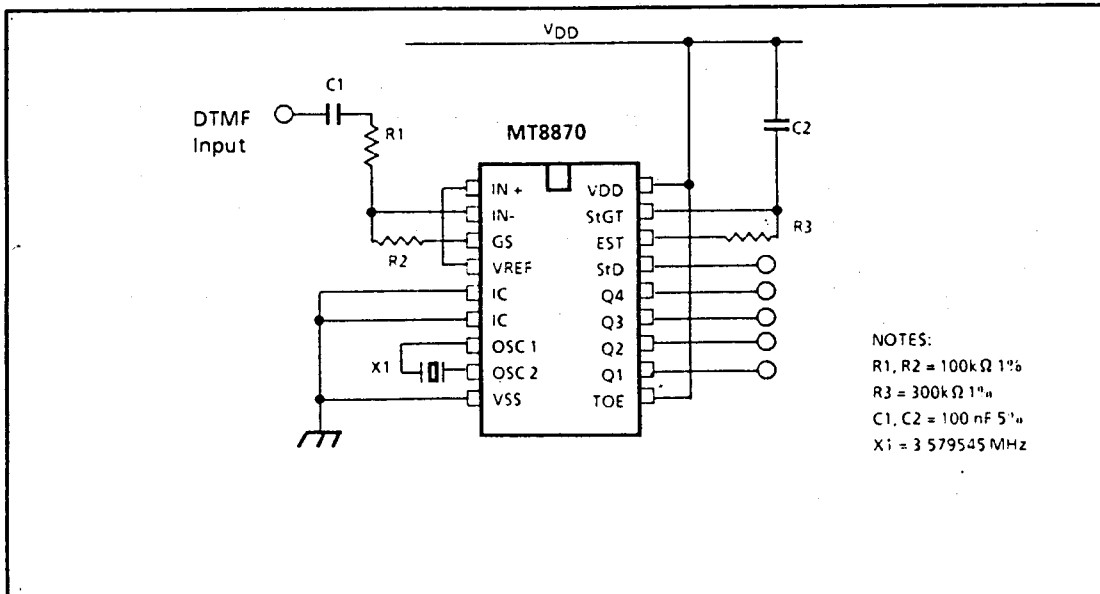
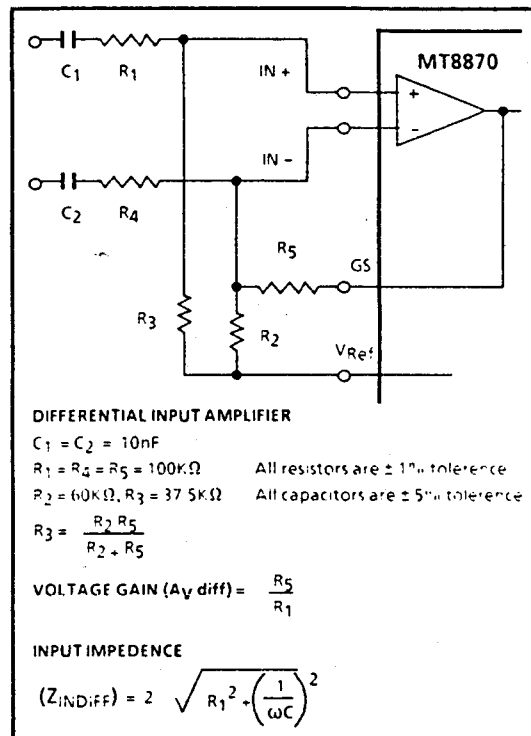
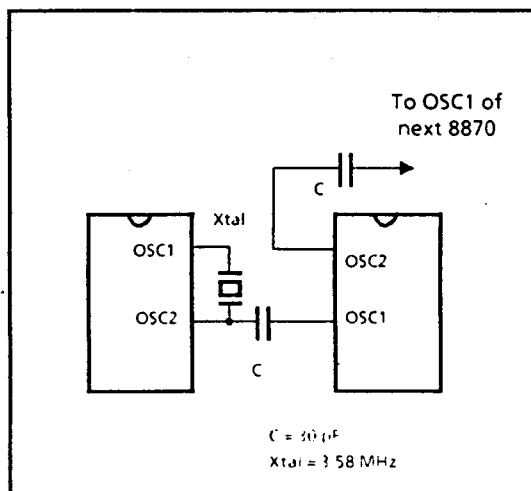

Figure 2. Single Ended Input Configuration
Figure 8. Differential Input Configuration
Figure 9. Oscillator Connection
[†] V_{DD} = 5 V, V_{SS} = 0, T_A = 25° C and f_C = 3.579545 MHz using test circuit shown in Figure 2
[†]V_{DD} = 5V, V_{SS} = 0V, T_A = 25°C and f_C = 3.579545 MHz, using test circuit in Figure 2
The input arrangement of the MT8870 provides a differential-input operational amplifier as well as a bias source (V_{REF}) which is used to bias the inputs at mid-rail. Provision is made for connection of a feedback resistor to the op-amp output (GS) for adjustment of gain. In a single-ended configuration, the input pins are connected as shown in Fig. 2 with the op-amp connected for unity gain and V_{REF} biasing the input at $\frac{1}{2}V_{DD}$. Fig. 8 shows the differential configuration, which permits the
The internal clock circuit is completed with the addition of an external 3.58 MHz crystal and is normally connected as shown in Figure 2 (Single Ended Input Configuration). However, it is possible to configure several MT8870 devices employing only a single oscillator crystal. The oscillator output of the first device in the chain is coupled through a 30 pF capacitor to the oscillator input (OSC1) of the next device. Subsequent devices are connected in a similar fashion. Refer to Fig. 9 for details. The problems associated with unbalanced loading are not a concern with the arrangement shown, i.e.; precision balancing capacitors are not required.